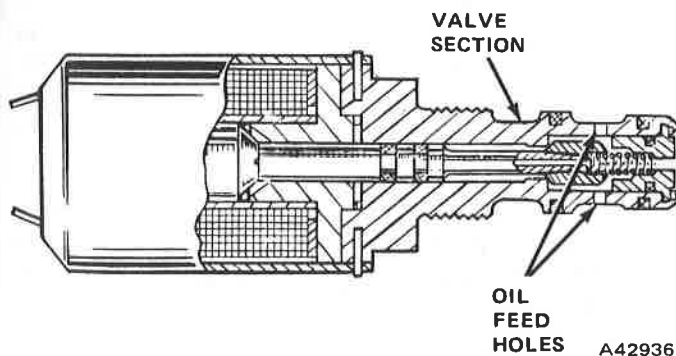

Fig. 6-36 Solenoid Valve
- (4) Inspect valve for cracks, plugged oil feed holes, broken electrical terminals, and seized solenoid valve plunger. Discard old O-ring if cut, worn, or stretched oversize (loose). If oil feed holes in valve end are plugged, soak in a cleaning solvent until clean (fig. 6-36). Do not use compressed air to clear any blockage or to dry valve after cleaning. Allow valve to dry on clean, lint-free shop cloth.